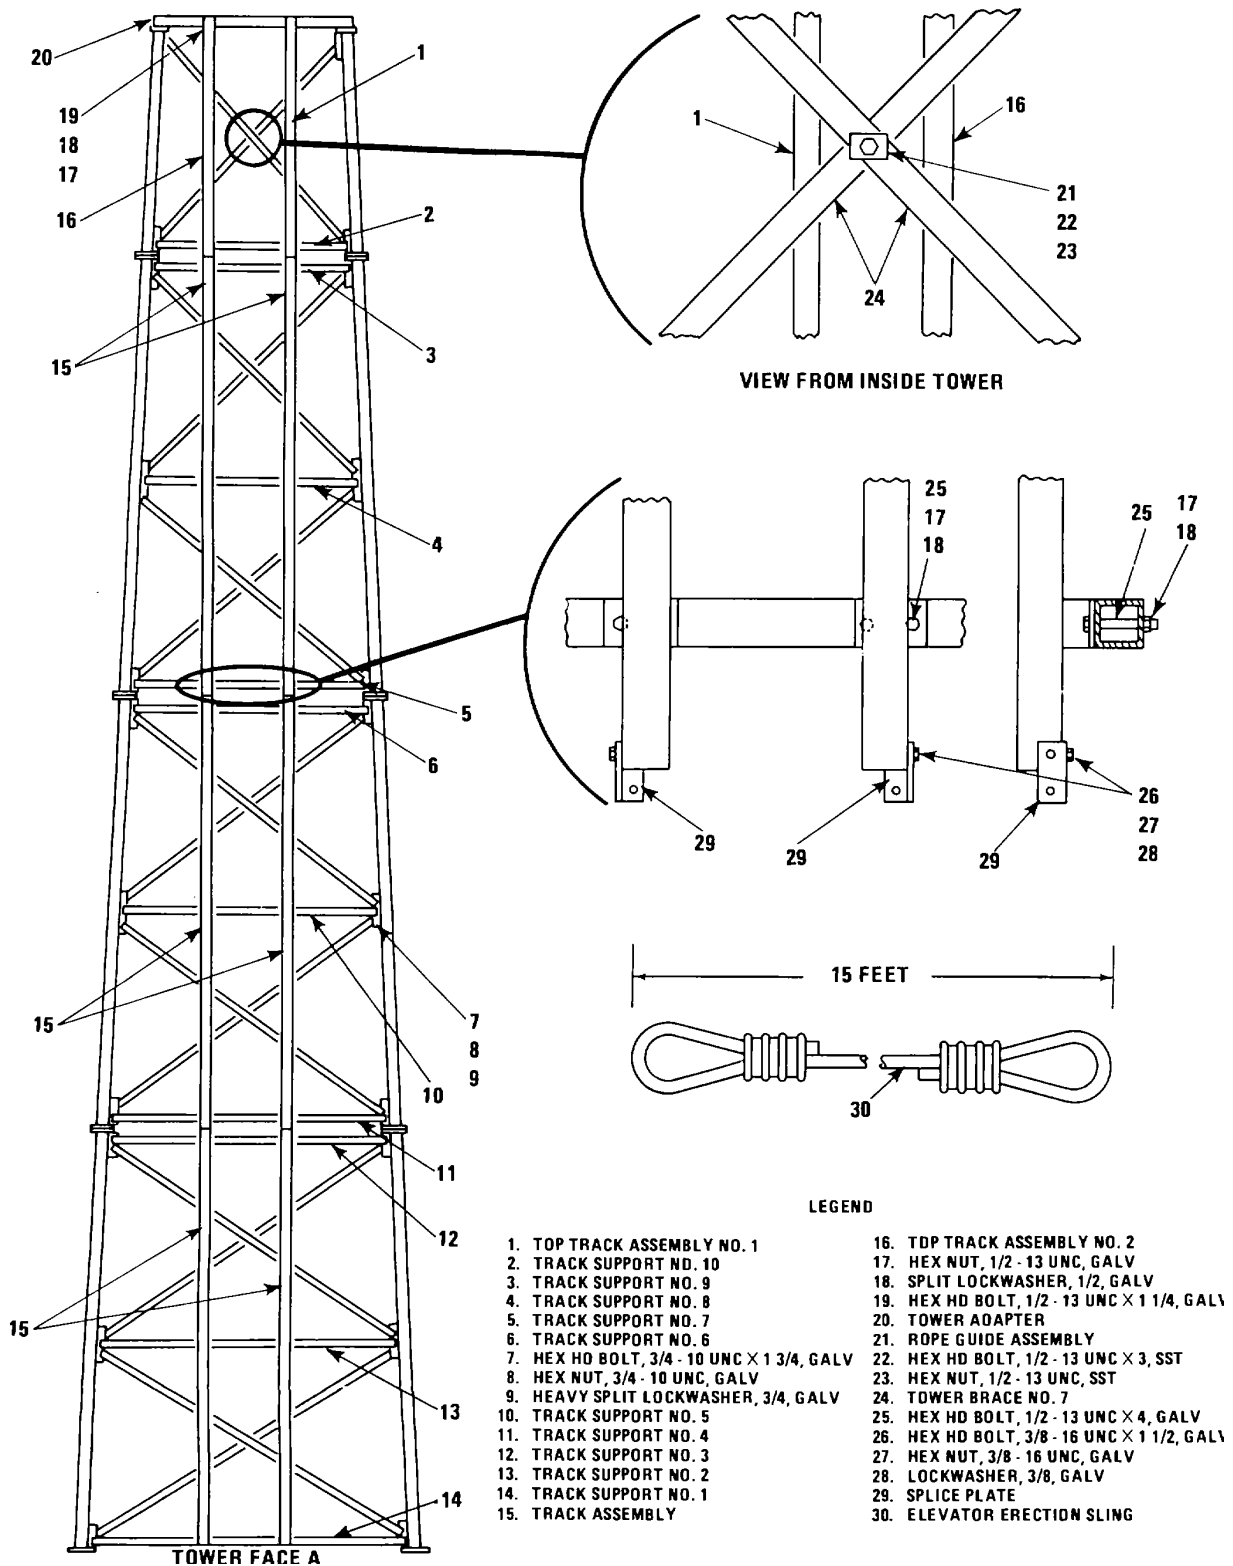

Figure 2-9. Elevator Track Attachment
If vertical elevator tracks are available when tower sections Nos. 1 through 4 are assembled and attached, install them next by following the procedure described below. If not, install the tower adapter next (paragraph 2-14). See paragraph 2-16c for instructions for attaching vertical elevator tracks after tower is erected. With the tower resting on support blocks, all tracks and track supports are to be attached to face A of the tower (the face that lies between legs B and C). Refer to figure 2-9.
- a. Attach track supports Nos. 1 (14), 2 (13), and 3 (12) to tower section No. 1. Secure to tower leg assemblies with six bolts (7), nuts (8), and lockwashers (9).
- b. As in step a, and with the same attaching hardware, attach track supports Nos. 4 (11), 5 (10), and 6 (6) to tower section No. 2; track supports Nos. 7 (5), 8 (4), and 9 (3) to tower section No. 3; and track support No. 10 (2) to tower section No. 4.
- c. Attach six track assemblies (15) to track supports of tower sections Nos. 1, 2, and 3 (two for each tower section) and secure with 36 bolts (25), nuts (17), and lockwashers (18) as shown in the detail of figure 2-9.